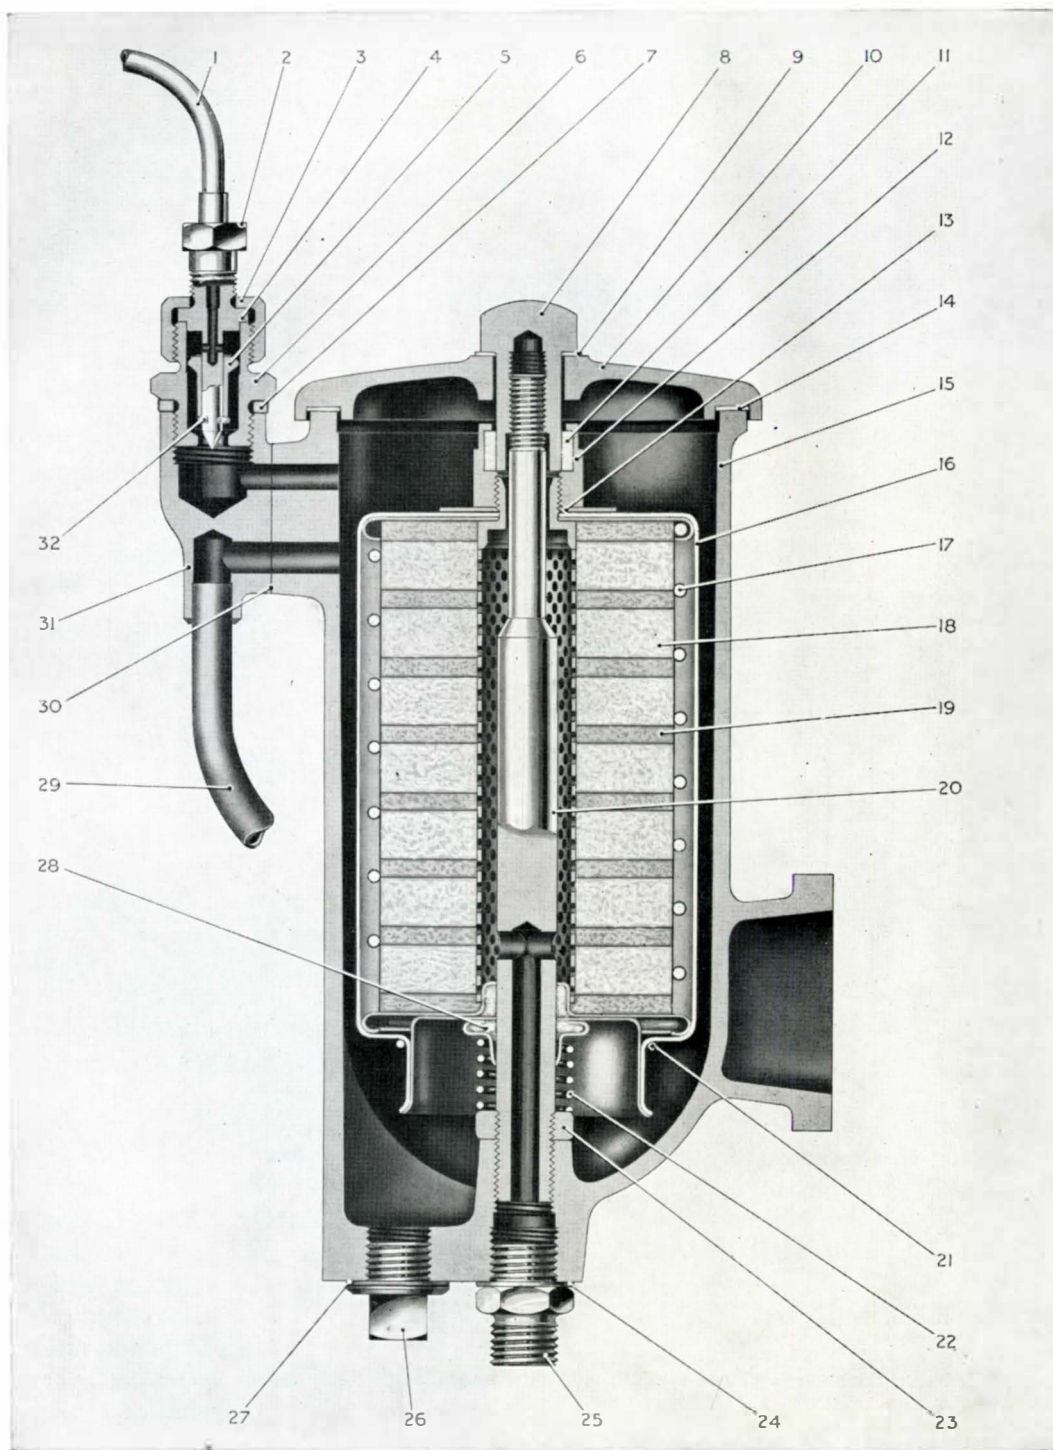

FIG. 81. SECTION THROUGH PACK-AND-SACK TYPE MAIN FUEL FILTER FITTED WITH A GRAVITY AIR-VENT-VALVE
The fuel filter unit consists of a die-cast body and cap housing a double filtering element and fitted with a gravity air-vent-valve, see Fig. 81. The filtering element, known as the "Pack-and-Sack" type, is made up of fifteen square felt pads, assembled thick and thin alternately (18) and (19), on a perforated support tube.